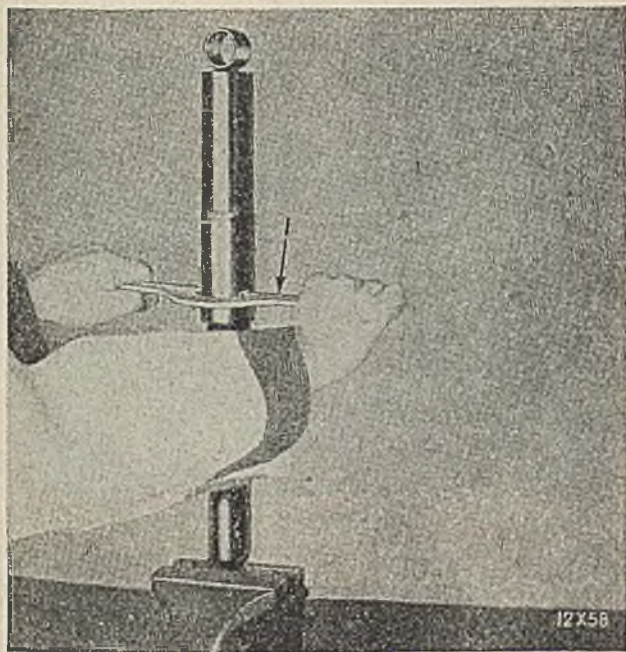

Fig. 18.—Disassembly shock absorber tubes. Tool MT 101.
3. Grip the lower eye of the shock absorber in a vise as shown in fig. 18.